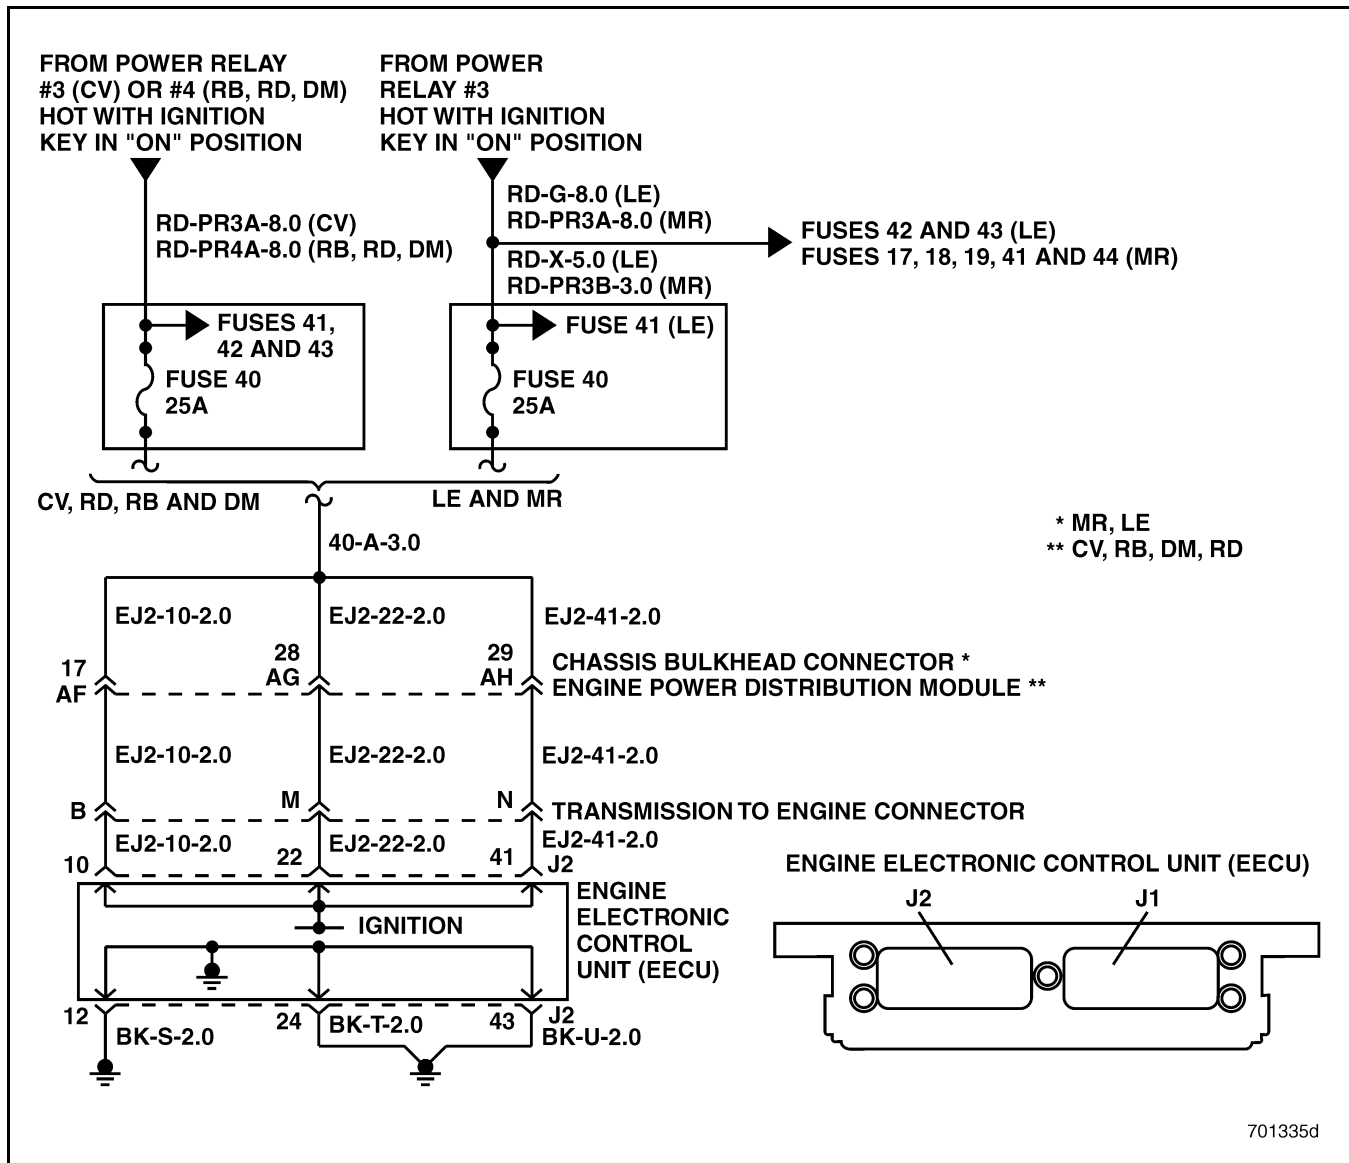

Figure 721 — Engine Electronic Control Unit (EECU) Voltage Circuit (ASET™ IEGR Engine)
3. Measure the voltage between the fuse 40 power supply cavity and a good ground (see Figure 721).